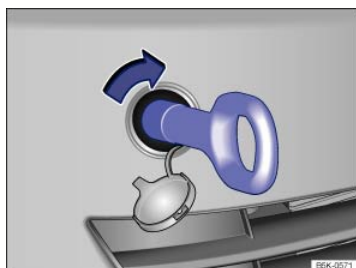

Fig. 238 In the right front bumper: Installing the towing eye.
There is a threaded hole for the towing eye in the right front bumper behind a cover ⇒ *Fig. 238*.
- Screw the towing eye **clockwise** into the threaded hole as far as it will go (arrow) ⇒ *Fig. 238* ⇒ ⓘ. Use the lug wrench to turn and tighten the towing eye.